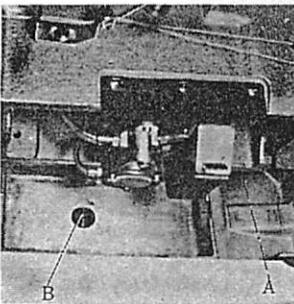

Fig. 10
(B) Keep clean oil reservoir and pour oil in the reservoir (oil pan) up to the center line (A, Fig. 10).
When oil has been soiled for several months use, release it through the hole (B, Fig. 10) and pour new oil in the oil reservoir.